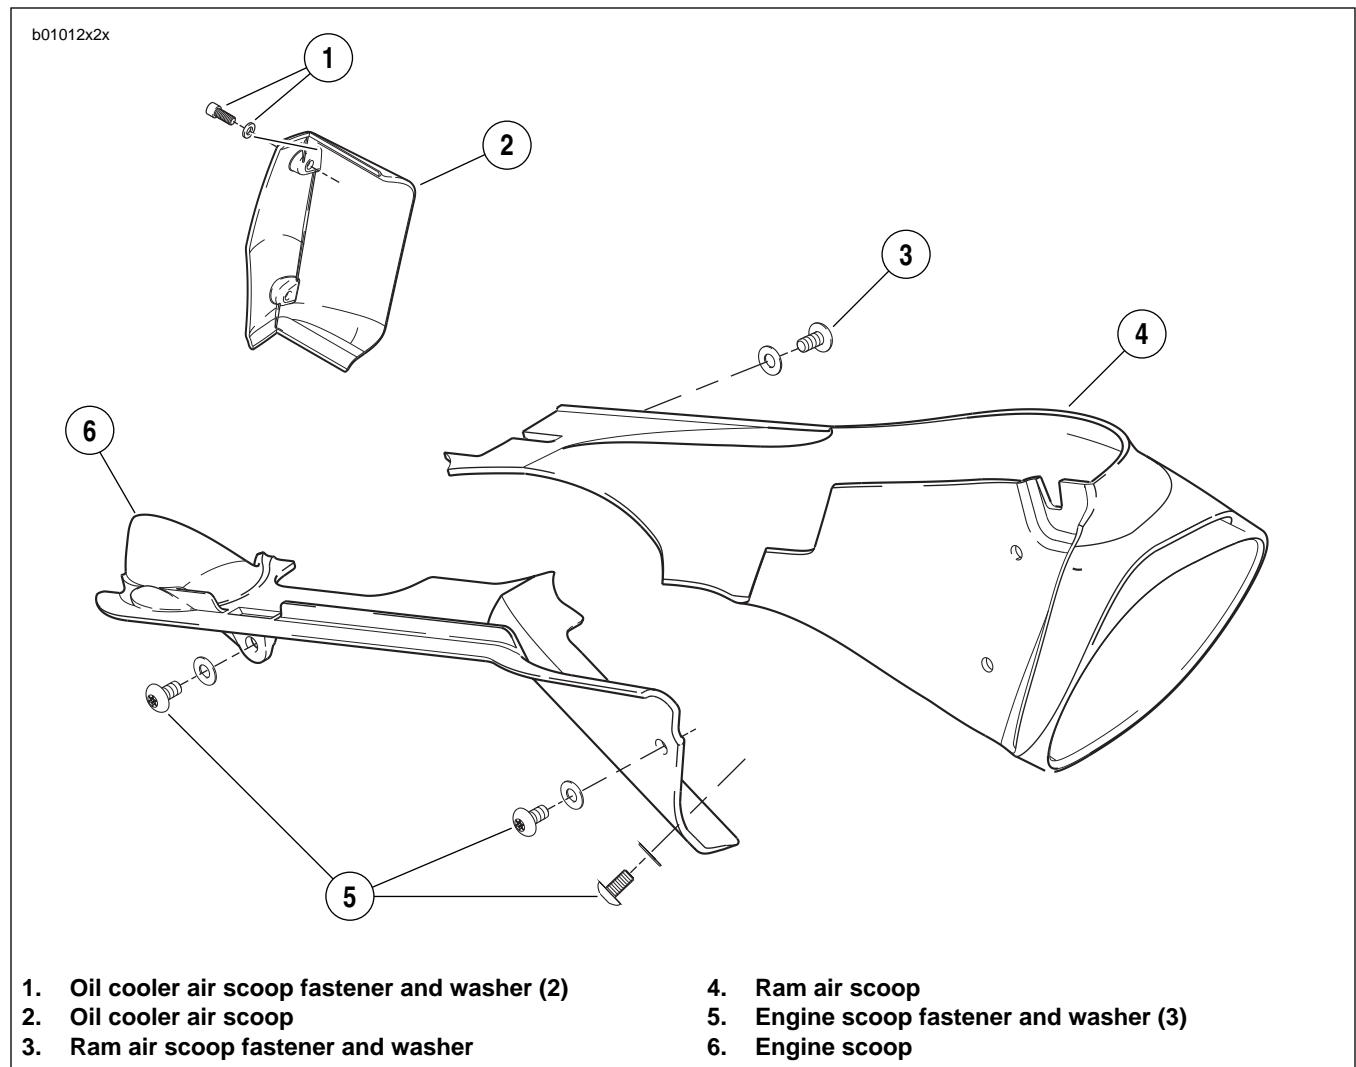

Figure 2-122. RAM Air Scoop, Engine Shroud, Oil Cooler
1. See Figure 2-122. On left side of bike, locate ram air scoop (4).
2. Remove three ram air scoop fasteners (3).
3. Remove ram air scoop (4).
1. See Figure 2-122. Position ram air scoop (4).
2. Install ram air scoop (4) with three fasteners (3). Tighten to 12-36 **in-lbs** (1.4-4 Nm).
1. See Figure 2-122. On right side of bike, locate engine shroud air scoop (6).
2. Remove three engine shroud air scoop fasteners (5).
3. Remove engine shroud air scoop (6).
1. See Figure 2-122. Position engine shroud air scoop (6).
2. Install engine shroud air scoop (6) with three fasteners (5). Tighten to 12-36 **in-lbs** (1-4 Nm).
1. See Figure 2-122. On left side of bike, locate oil cooler air scoop (2).
2. Remove two oil cooler air scoop fasteners (1).
3. Remove oil cooler air scoop (2).
1. See Figure 2-122. Position oil cooler air scoop (2).
2. Apply **LOCTITE 272** (red) to oil cooler air scoop fasteners (1) and tighten to 48-72 **in-lbs** (5.4-8 Nm).